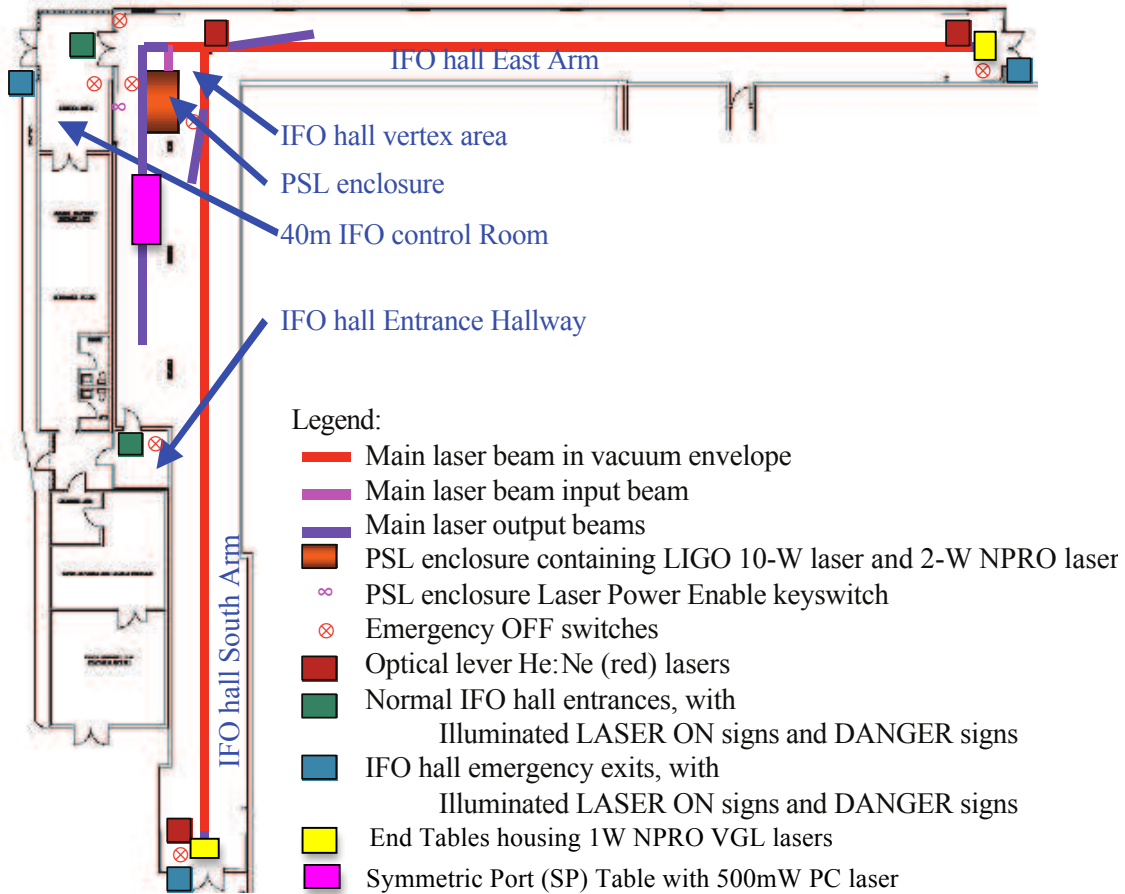
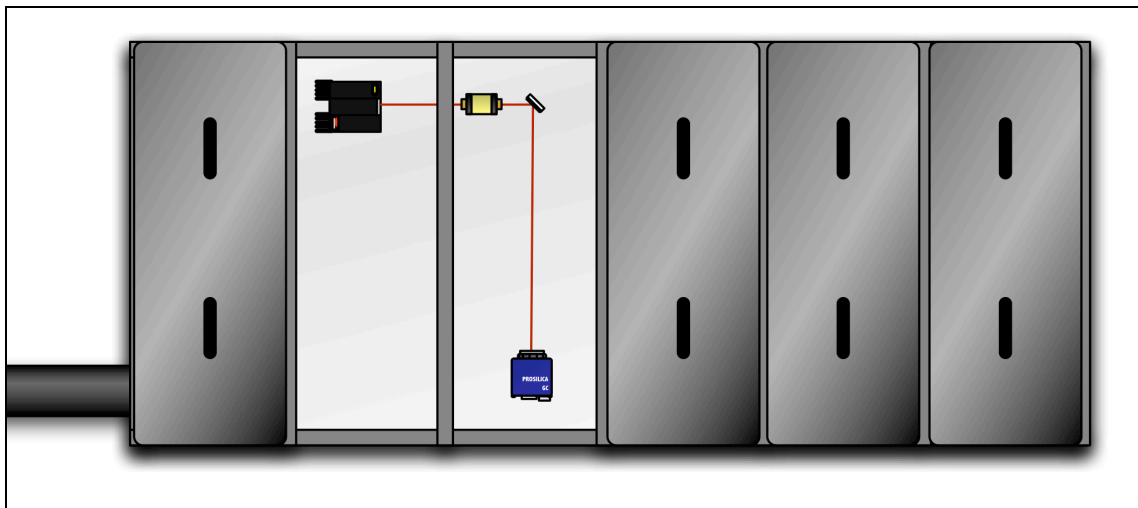

Figure 1. Layout of the 40M Lab showing the location of the 500mW PC laser.
Figure 2. The location of the 500mW PC laser NPRO on the SP table. Some of the black aluminium lids are shown, as is the connecting tube to the PSL table.
The floor plan of the 40M Lab is shown in Figure 1. The whole IFO hall is the Nominal Hazard Zone (NHZ). The control room, north/south annex work areas are non-hazard areas. All entrances to the 40M Lab and to the IFO hall have appropriate Laser Hazard Warning signs.
In the Laser Hazard states (described below), signs are energized out side of each entrance to the IFO Hall. Laser Emergency OFF switches are located at all entrances to the IFO hall and near the PSL enclosure, as shown In Figure 1 and Figure 2.
The 500mW PC laser is located on the Symmetric Port (SP) table next to the PSL enclosure as depicted in Figure 1. Note that the name for this table is historical, but it no longer houses the symmetric port of the main 40m interferometer.
The location of the 500mW PC Laser on the SP Table is shown in Figure 2. The SP table is fully enclosed by a high black aluminium shield. Aluminium lids that are also in place when the table is not in immediate use.
The target area of the 1064nm NPRO laser is within the confines of the SP table, as illustrated by the pink region in Figure 2. At no time should the IR beam leave this region.